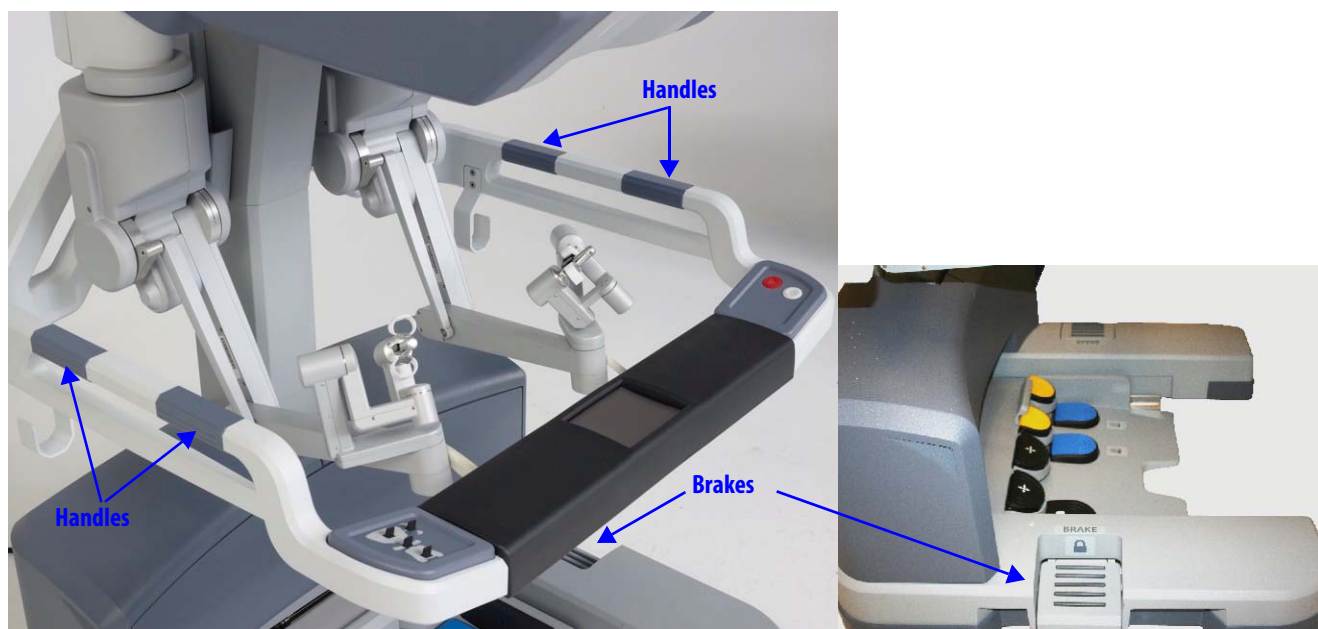

Figure 3.3 Surgeon Console handles and brakes
The Surgeon Console is placed outside of the sterile field. Use the handles on either side of the Surgeon Console (Figure 3.3) for moving or positioning. Labels say “PUSH” near the handles for pushing on both sides.
- Brakes (indicated by “BRAKE” label) are located on each side of the base on the Surgeon Console (Figure 3.3). The Surgeon Console should be locked once it is positioned for surgery. Step on the brake pedal to apply that brake; the lock symbol will become visible when the pedal is depressed, indicating the brake is applied. You need activate only one brake to lower the footswitch panel. When possible, apply both brakes for best stability. Step on the depressed brake to release it. Both brakes must be released to raise the footswitch panel and enable Surgeon Console transport.